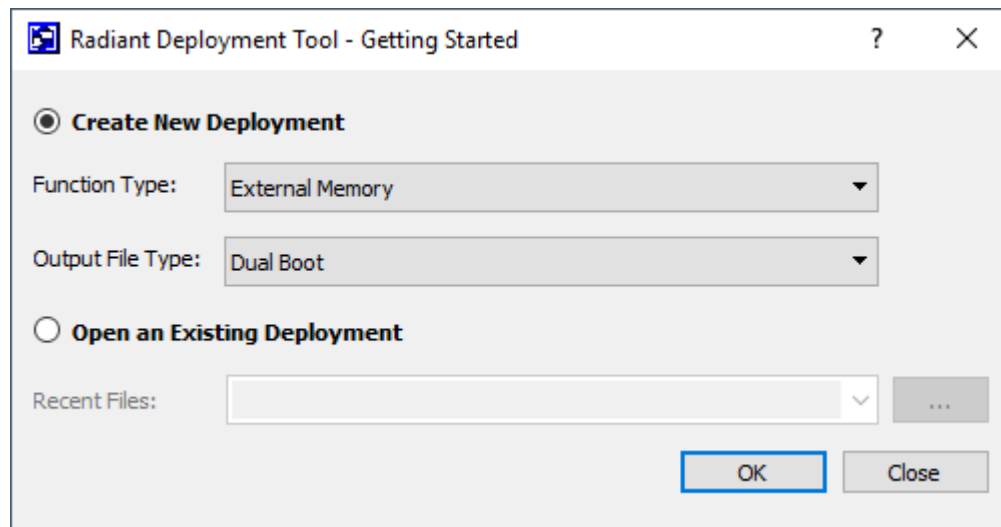

Figure 6.1. Creating New Deployment for Dual Boot PROM Hex File
3. In the **Radiant Deployment Tool** window, select **External Memory** as the **Function Type** and select **Dual Boot** as the **Output File Type** (Figure 6.1).